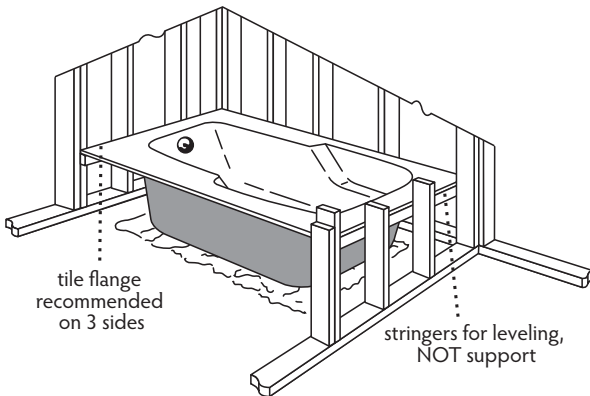

figure 3
2. Place the tub in the proper position using the floor, not the deck or rim, as the support, and set it in the bedding compound (figure 3).